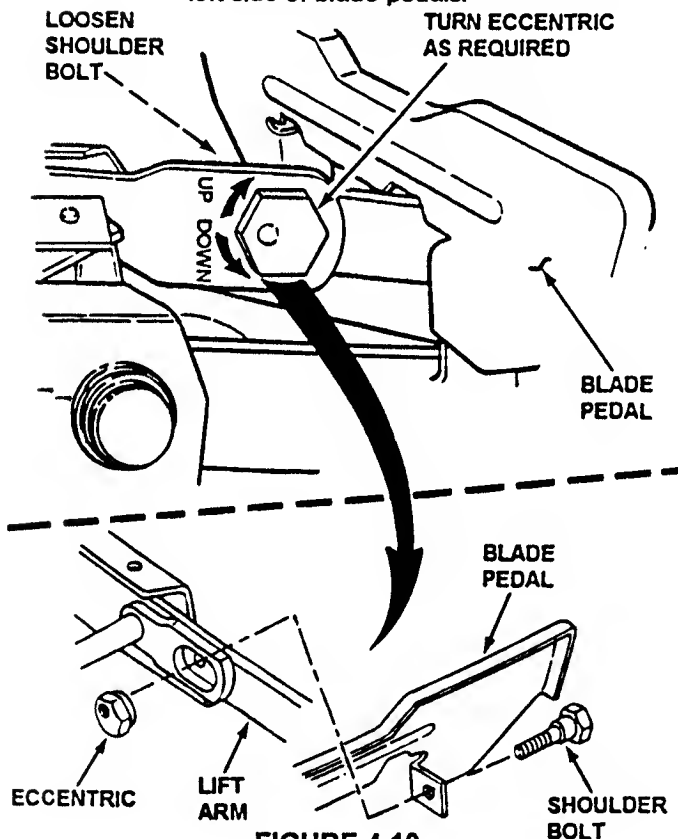

FIGURE 4.10
- Turn eccentric "UP" or "DOWN" as required until blade tips are within  $1/8"$  of each other. See Figure 4.10.